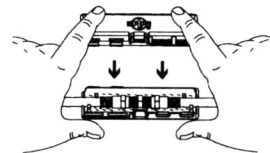

FIG. 2 - SNAP TOGETHER CLOSURE
2.03 Take top half of closure and line up with bottom half to mate snaps with holes. Press until top half clicks into place. (Fig. 2)